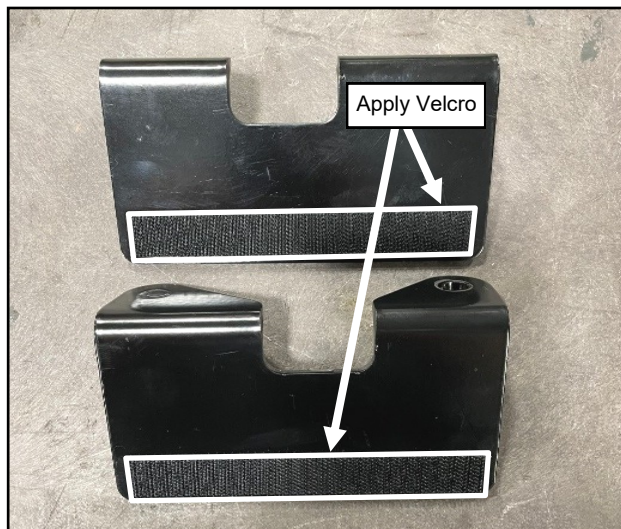

Fig. 1.29 (Install Velcro to Arm Restrictors)
- 1.29 Apply 5/8" wide P.S.A. Velcro to the bottom edge of Arm Restrictors. See Figure 1.29.